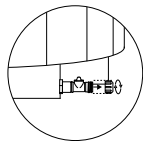

Figure 11.5b
3. Unscrew the cap from the spa drain, Figure 11.5b.